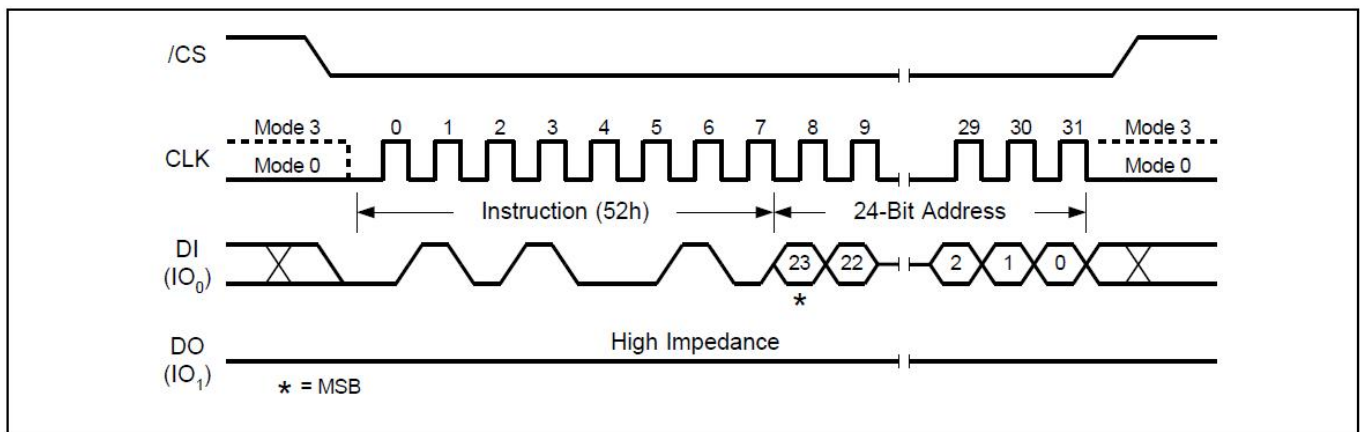

Figure17. 32KB Block Erase Sequence Diagram
The 32KB Block Erase command sequence: CS# goes low → sending 32KB Block Erase command → 3-byte address on DI → CS# goes high. The command sequence is shown in Figure17. CS# must be driven high after the eighth bit of the last address byte has been latched in; otherwise the 32KB Block Erase (BE) command is not executed. As soon as CS# is driven high, the self-timed Block Erase cycle (whose duration is t_{SE}) is initiated. While the Block Erase cycle is in progress, the Status Register may be read to check the value of the Write in Progress (BUSY) bit. The Write in Progress (BUSY) bit is 1 during the self-timed Block Erase cycle, and is 0 when it is completed. At some unspecified time before the cycle is completed, the Write Enable Latch (WEL) bit is reset. A 32KB Block Erase (BE) command applied to a block which is protected by the Block Protect (SEC, TB, BP2, BP1, and BP0) bits (see Table 1-6) is not executed.